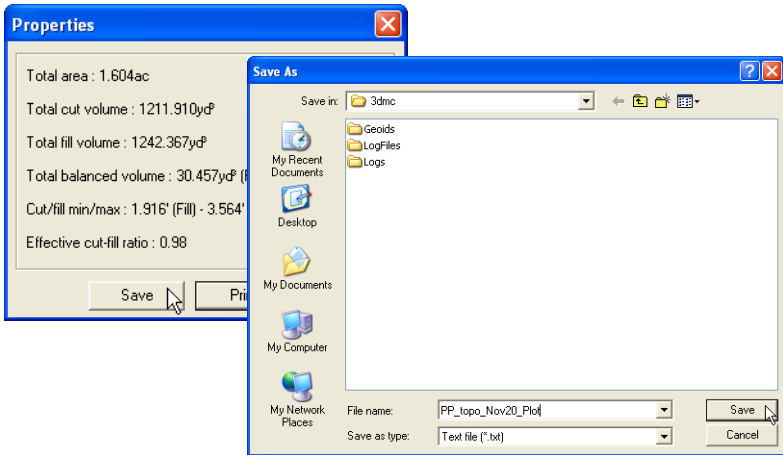

Figure 10-3. Save Plot Properties As Text File
1. Click **Cut/Fill ► Plot properties** and click **Save** (Figure 10-3 on page 10-3).